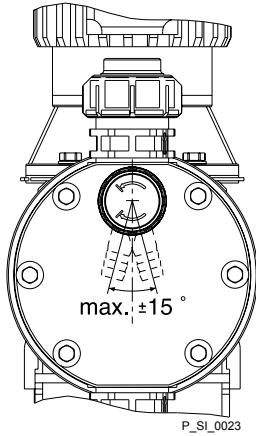

Fig. 17: Permissible alignment of the relief valve
- Route the overflow line with a continuous slope and moreover with the tube nozzle pointed downwards - see Fig. 17.